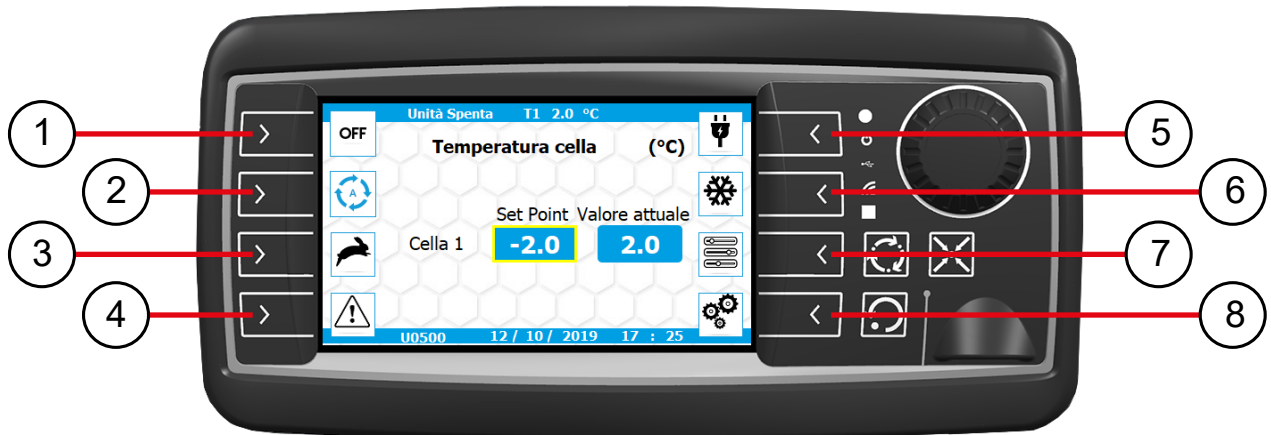

Figure 11 - Menu Controls
- In case of intensive use of the unit, regularly check the accumulation of ice in the evaporator and, if necessary, perform manual defrosting  by pressing the button (5, Figure 11).
To deactivate the automatic ignition of the diesel engine, keep the key 5 (Figure 11) pressed until the icon of the engine with the red X appears (see. Figure 13).